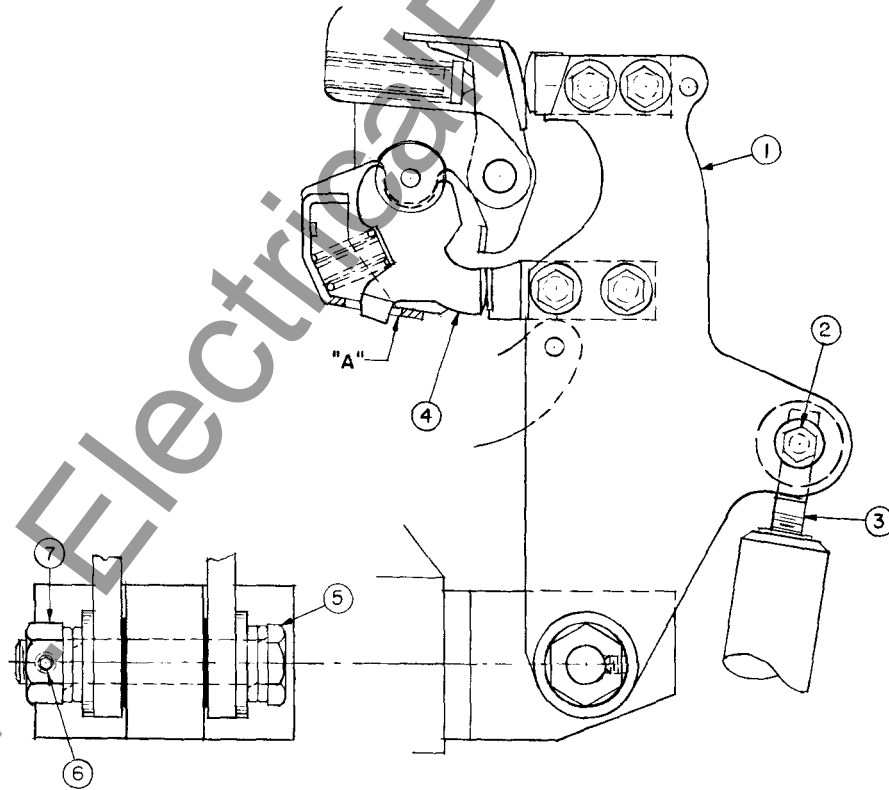

Fig. 4—Contact Pressure and Bridge Pivot Pressure
The circuit breaker conditions may be observed through sliding panel (2, Fig. 4) or by opening compartment door (1).
CONTACT PRESSURE (See Fig. 4)
BRIDGE PIVOT PRESSURE (See Fig. 4)